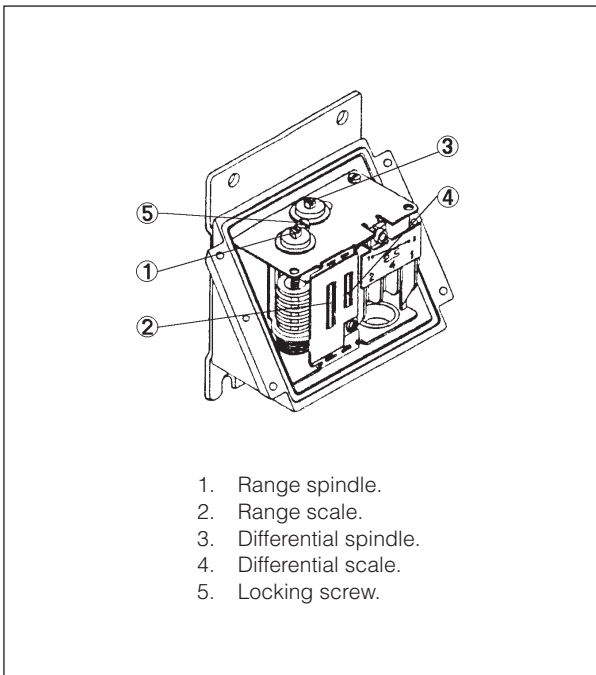

Fig 1.
1) When the thermostate cover is removed and locking screw pos. 5, *fig 1* is loosened, the range can be set with the spindle pos. 1 while at the same time the scale pos. 2 is read.